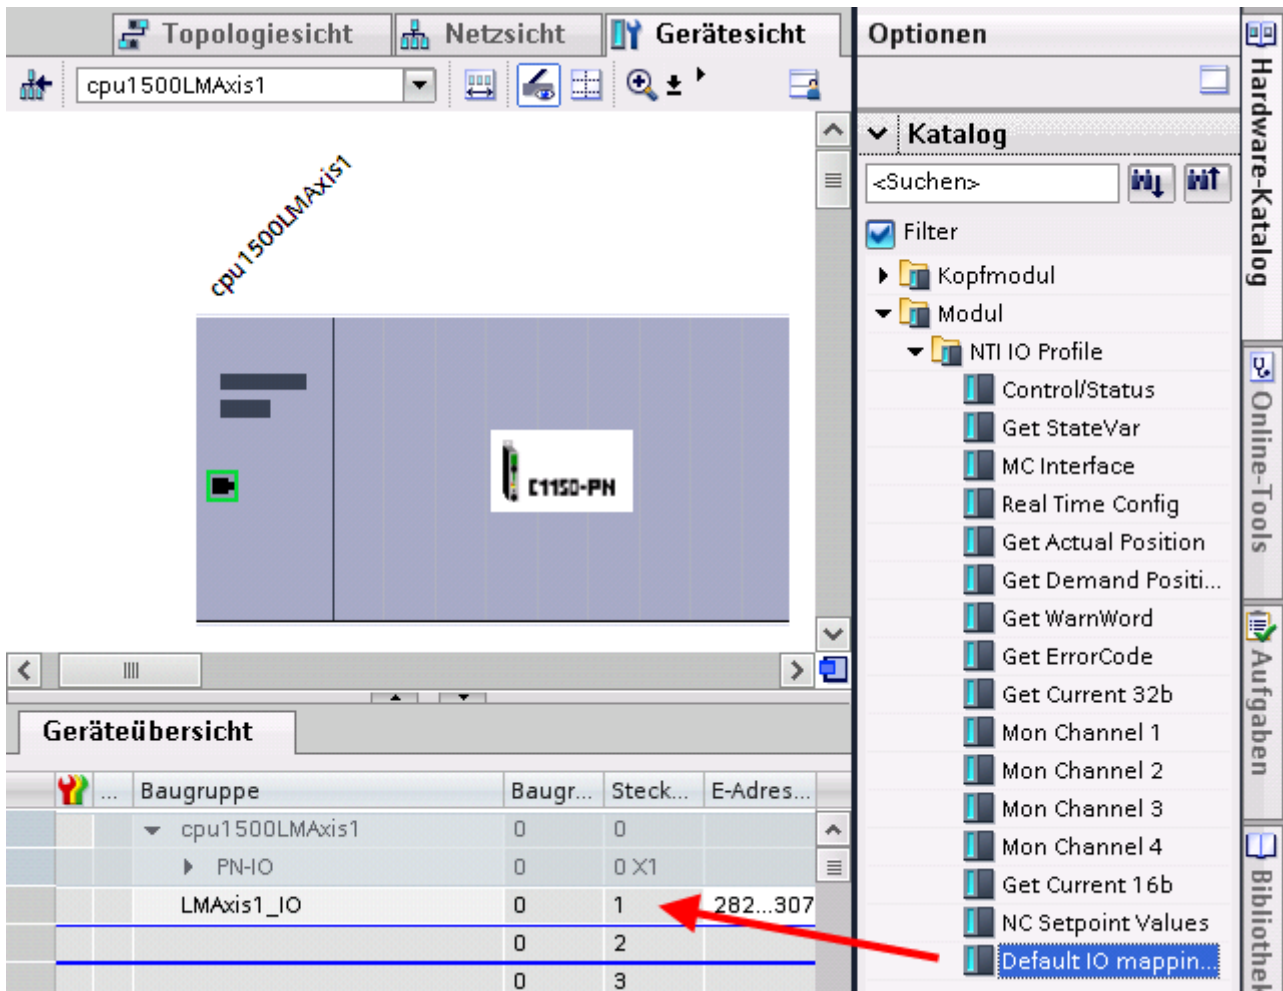

Figure 4: TIA Portal device view, Insert "Default IO mapping with Config" module
- Afterwards (if not already there) insert the „Default IO mapping with Config“ module as shown in Figure 4 into slot 1 and assign a name (e.g. LMAxis1\_IO).